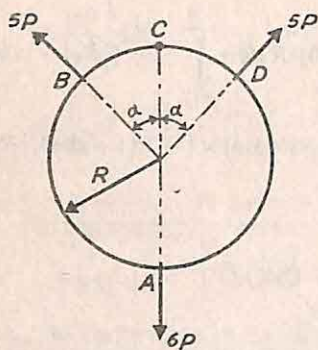

Fig. 49
27. A ring of mean radius  $R$  is made from a bar of uniform section with the two ends at  $C$  connected by a pin-joint. The ring is subjected to three radial forces arranged in equilibrium as shown in Fig. 49. Show that the force in the pin is